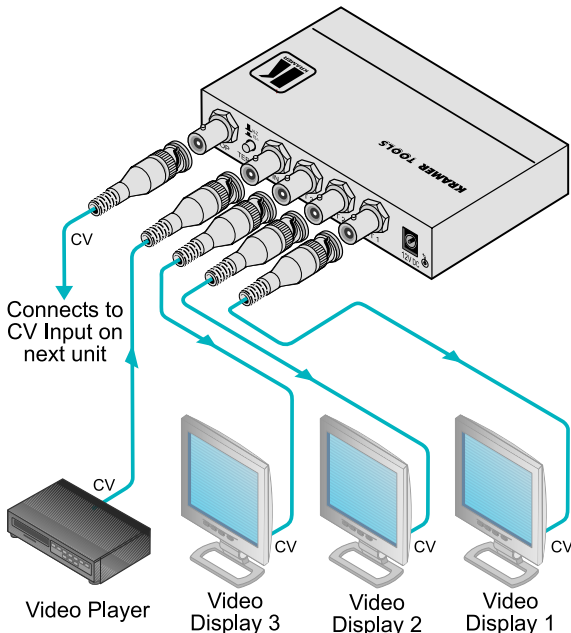

Figure 2: Connecting the 123Vxl Differential Video Line Amplifier
To connect the **123Vxl**, as the example in *Figure 2* illustrates, do the following:
5. Connect a 12V DC power adapter to the power socket and connect the adapter to the mains electricity (not shown in *Figure 2*).